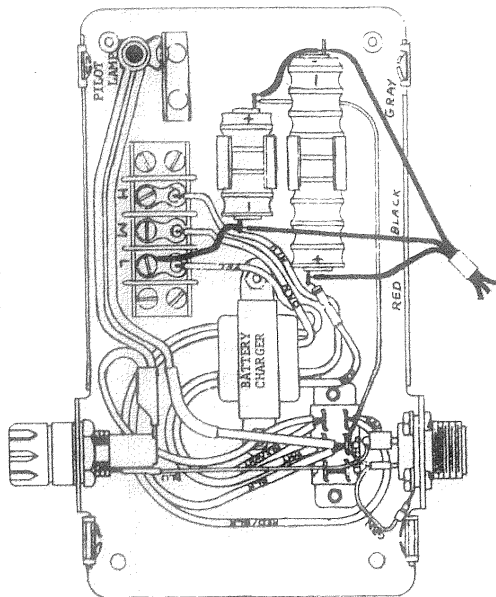

Figure 3-1
3. Install new batteries, note polarities. Resolder leads to terminals, refer to Figure 3.1 illustration.
- (a) Rotate the plug-in element (7, Figure 3-1) so that the arrow points up.
- (b) Using a small screwdriver, turn the meter zero screw (12) clockwise or counterclockwise as necessary so that the meter pointer exactly aligns with the zero of the meter scale.